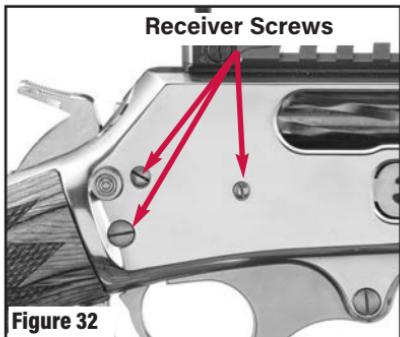

Figure 32
10. Tighten all receiver screws. There are three screws on the shooter's right (hammer screw, carrier screw, and loading gate screw) and one screw (trigger guard plate support screw) on the shooter's left. Do not over tighten. See Figures 32 and 33. **Do not attempt to remove or loosen these screws.** See "Torx® Bit Sizes and Torque Specifications," p. 57.